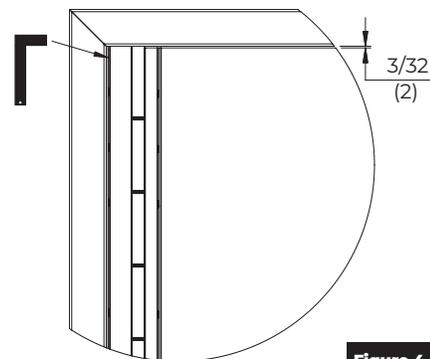

Figure 4
- Mount door to leave 3/32" (2) gap between top of door and frame header. (Figure 4)